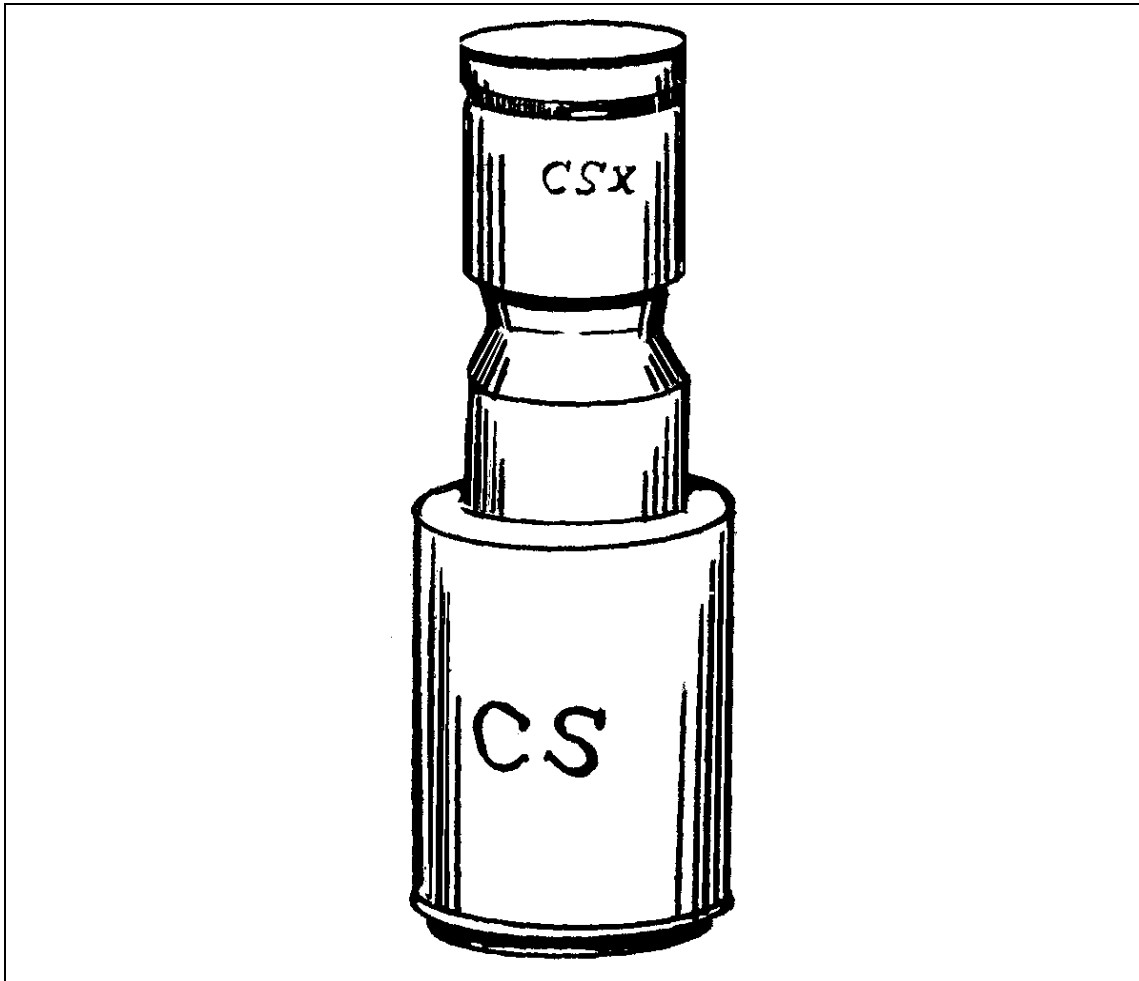

Figure D-11. North Korean lachrymatory grenade.
- Type: Lachrymatory. (Figure D-11)